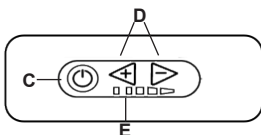

Figure 3
2. Press the power button (Figure 3, C) on the Power Pack to turn it on.
3. Use the Variable Controls (Figure 3, D) to increase or decrease light intensity.